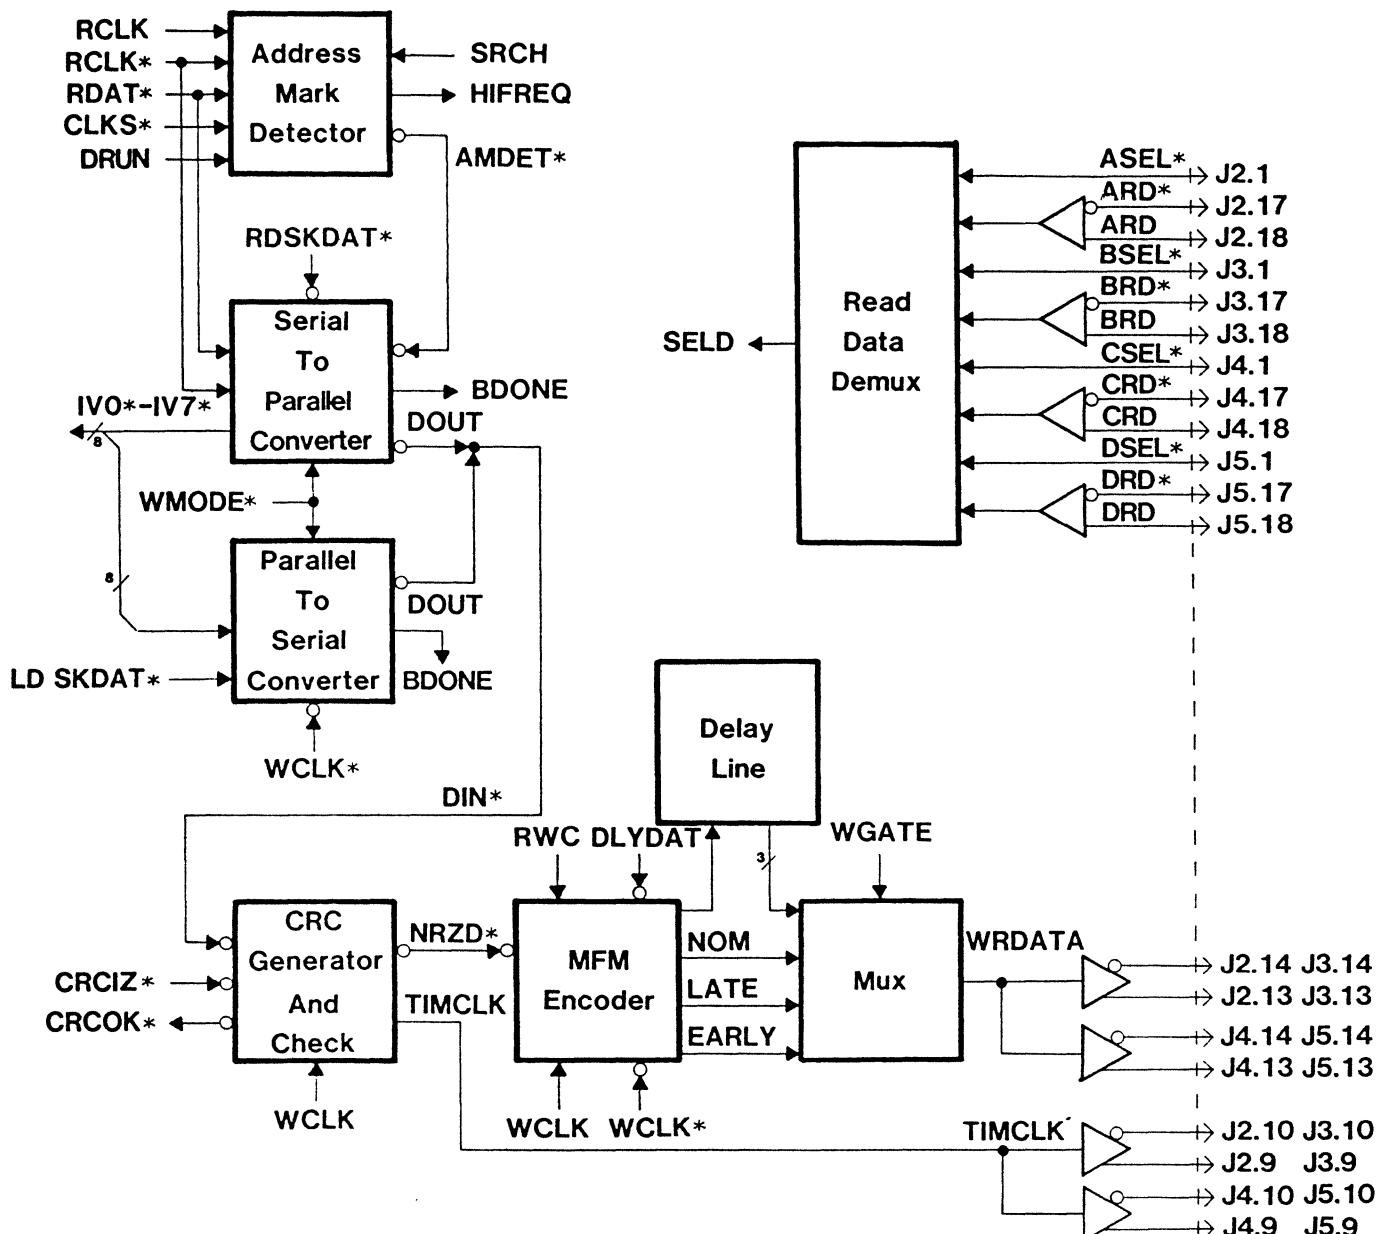

Figure 3-5 — Read and Write Logic Block Diagram
The four remaining lines are supplied to the Disk Read Write Control. Refer to Figure 3-5.
- (2) CBUSY* indicates the controller is busy and is used by the Busy Interrupt Status.
- (3) MBCLR* generates a 796 Bus INIT* and will initialize the Bus if Option Jumper W47 is installed.
- (4) CRCIZ* initializes the CRC Generation and Check. Refer to Figure 3-5.
- (5) IBLA* generates an Address Mark.
- (6) SRCH* initiates a search for an Address Mark in the read data. Refer to Figure 3-5.
- (7) 16 BIT indicates a 16 bit data transfer.
3.40 Refer to Figure 3-5 for the description which follows. The Read and Write Logic perform the function of MFM Generation and Decode.